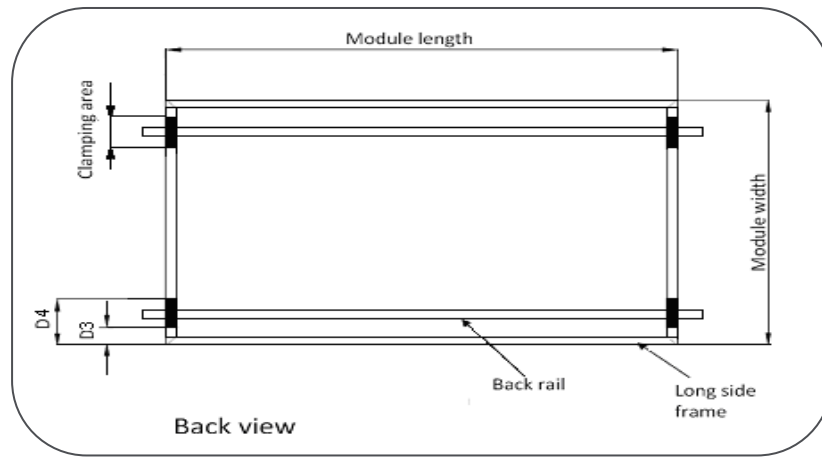

Figure 3 Short rail mounting clamp range (D3 and D4)
- Clamp on the short side of the frame (see Figure 3, measurements below)